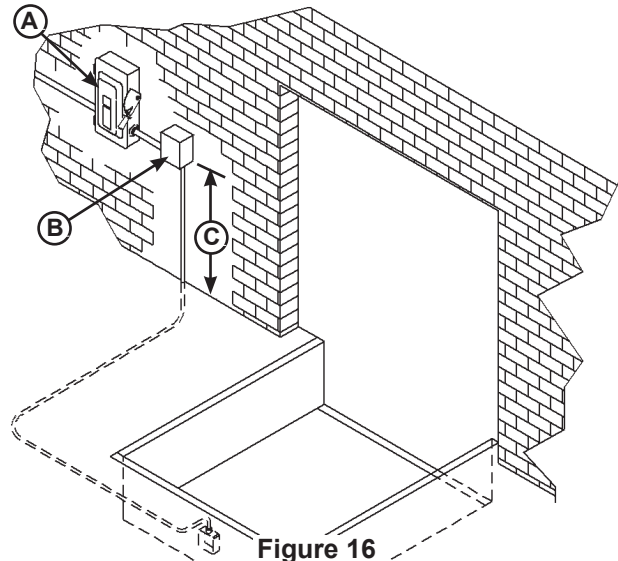

Figure 16
1. Mount the push-button control panel (B) so bottom of control panel-to-dock floor distance (C) is 48 in. (1219 mm). See Figure 16.
2. Install electrical disconnect panel (A) if not already installed. Disconnect panel supplied by others.